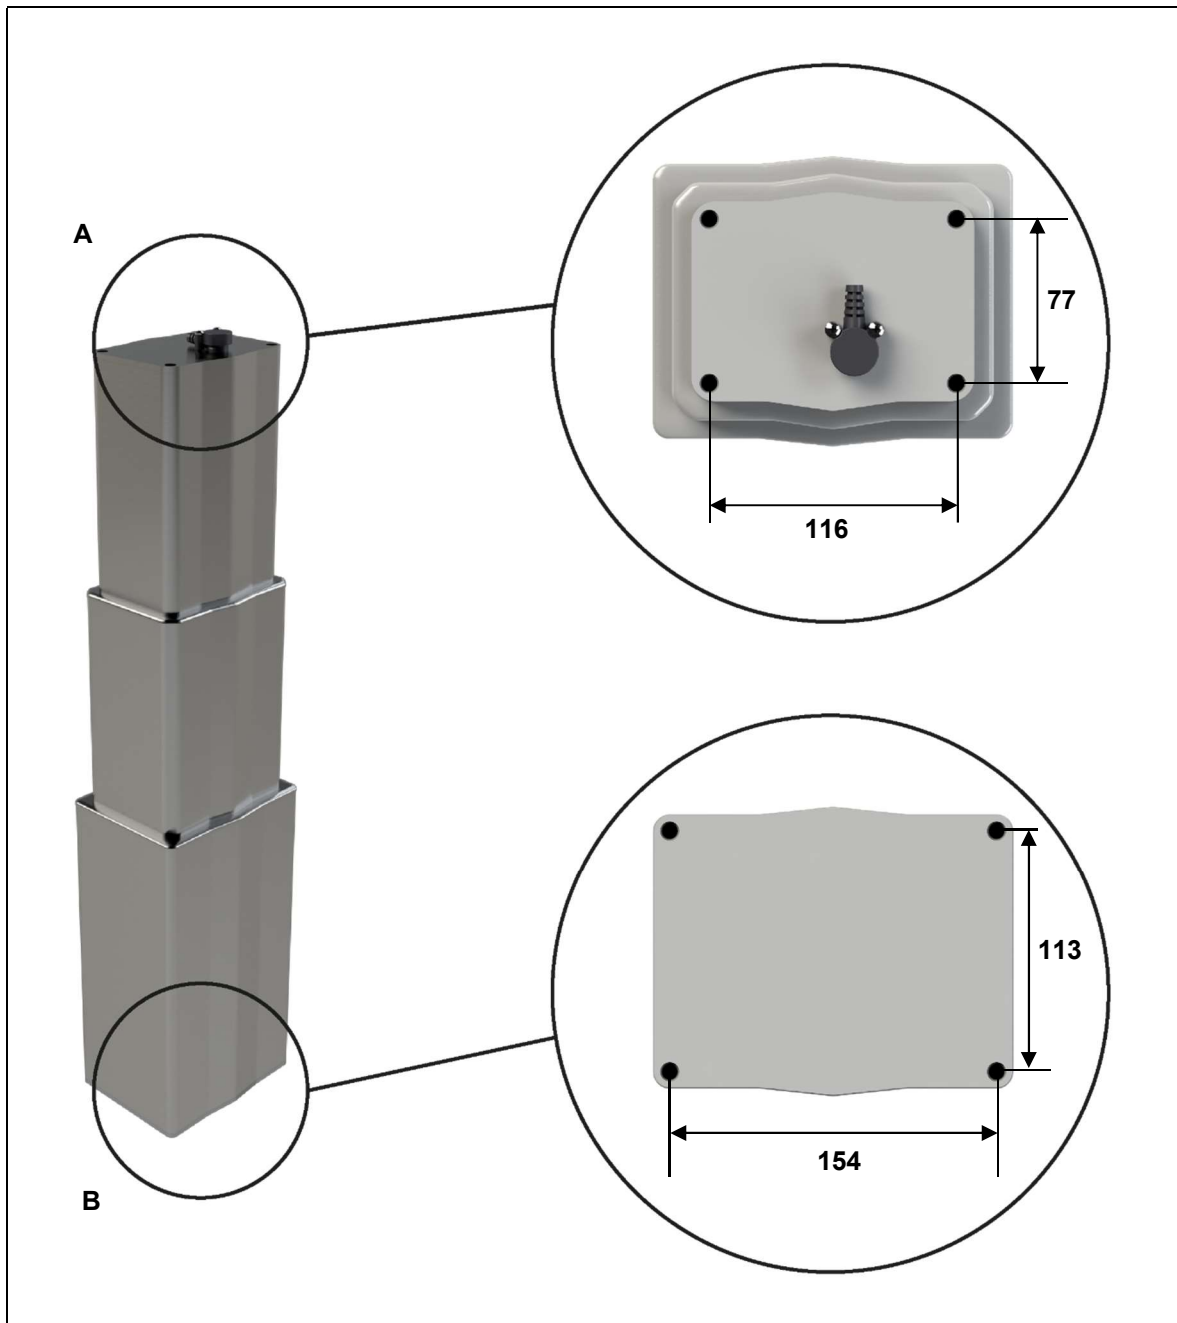

Figure 8 Mounting holes for the installation: Head and foot of DC20 lifting column (in mm)
- ▶ Use M8x40 threaded cap screws (strength class 8.8) (as shown in Figure 8) for mounting the DC20 lifting column. The tightening torque should be between 15 and 17 Nm.